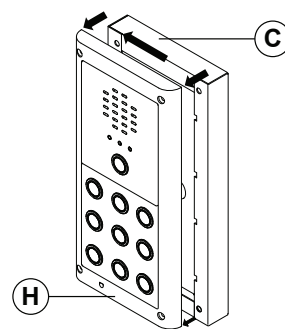

Fig. 54
6. Pull back the module support frame **(H)** from the surface box **(C)** while moving it slightly to the left, following the guide arrows, as shown in **Fig.54**;